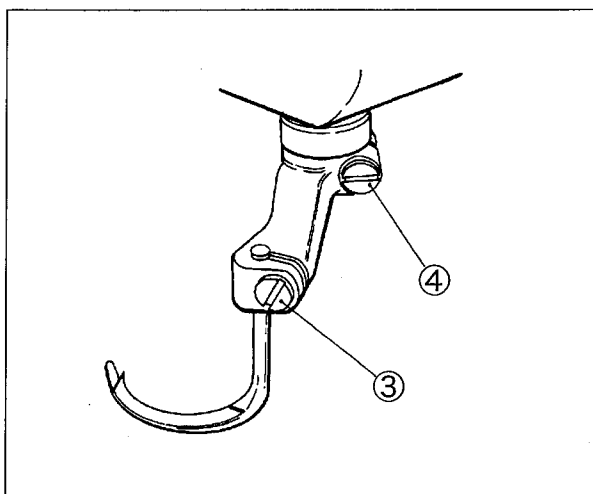

Fig. 46
- (1) Loosen the screws ③ and ④ of the spreader holder. (Fig. 46)